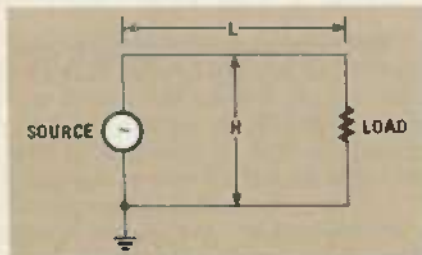

FIG. 1—THE AMOUNT OF INTERFERENCE that a circuit can pick up or cause is largely determined by the physical size of the loop that it forms.
That leads us to one of the most important rules for reducing EMI: When designing or laying out cable runs and printed-circuit board traces, keep the area of any potential loops small. Consider the simple circuit shown in Fig. 1. It consists of a signal source, a load, and a ground. The area of the loop is formed by the product of the physical distance separating the source and the load (L), and the physical distance separating the "signal" and "return" (grounded) leads (H).